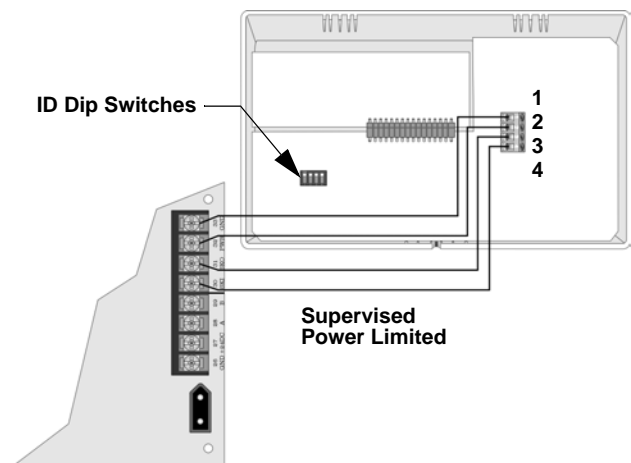

Figure 2: Model SK-5235 Connection
2. Wire the SK-5235s as shown in Figure 2.